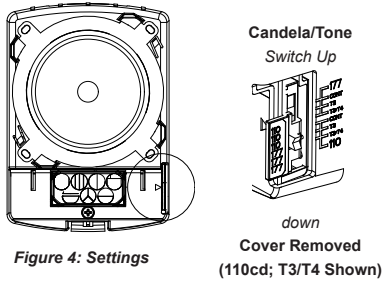

Figure 4: Settings
5. Verify appliance settings are correct for your application. Settings are shown in Figure 4. Factory settings is Code 3 (T3), and 110cd. Use Code 3 for fire emergency only, and Code 4 for carbon monoxide emergency only.